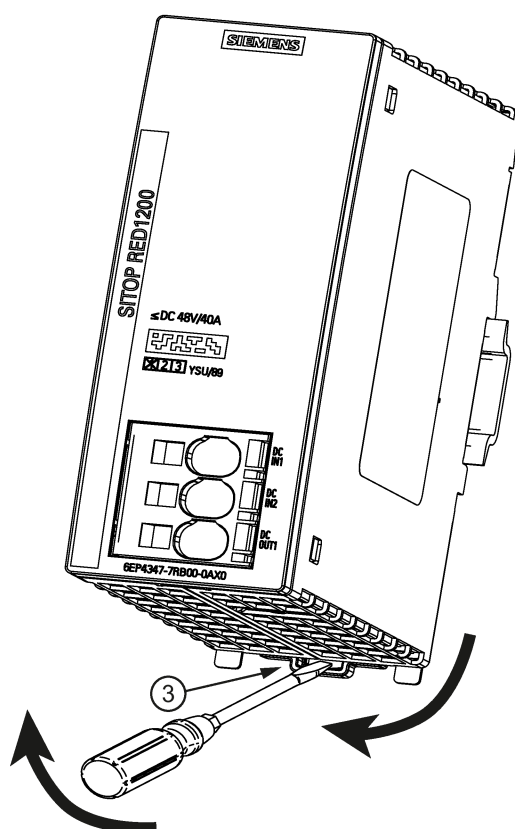

Figure 3-1 Mounting/removal
To remove, pull up the slider ③ using a screwdriver (see Figure 3-1 Mounting/removal (Page 54)) and disengage the device at the bottom edge of the standard mounting rail. Then you can remove the device from the upper edge of the standard mounting rail.